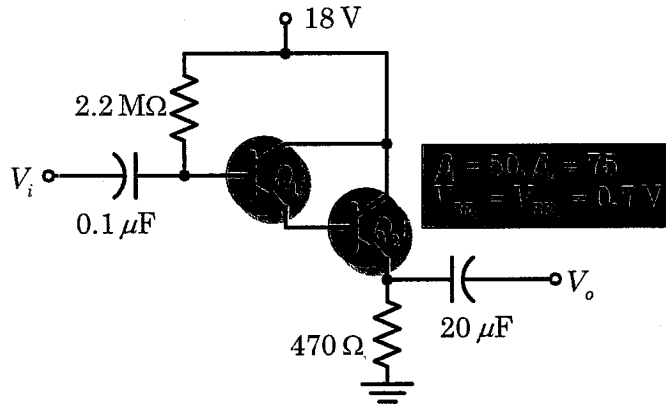

Figure Q1 (b)
- (b) Figure Q1 (b) shows the Darlington amplifier. Determine: